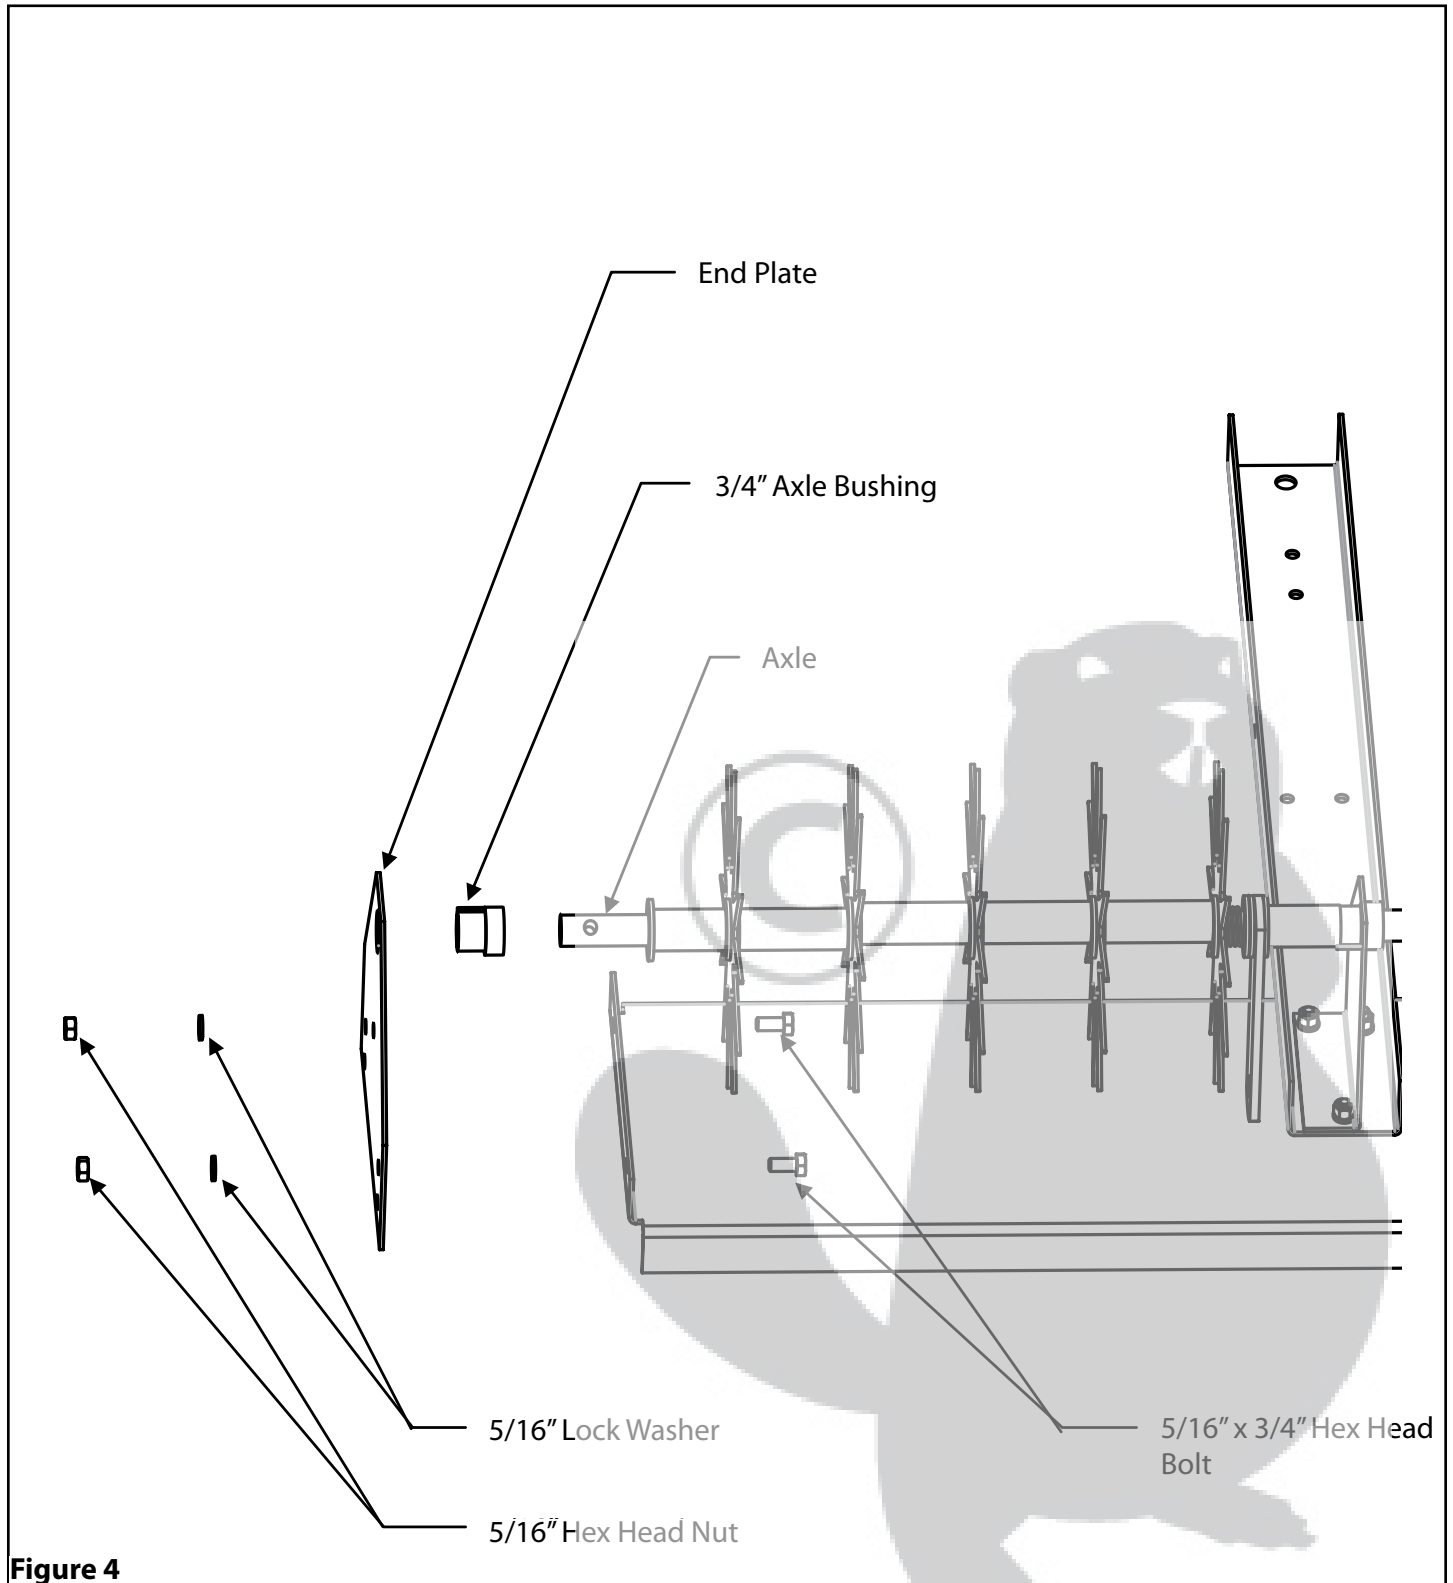

Figure 4
4. Insert a 3/4" Axle Bushing into the End Plate and place the Bushing and End Plate onto the Axle. Insert a 5/16" x 3/4" Hex Head Bolt into one of the end holes in the Base Plate. Then insert the bolt into the holes in the End Plate, place a 5/16" Lock Washer onto the bolt, loosely attach a 5/16" Hex Head Nut onto the bolt at this time. Repeat this process on the other side. Now alternating back and forth between the two bolts tighten the nuts. This will slowly increase the tension on the Axle Spring, until this side is tight and properly aligned. See Figure 4.